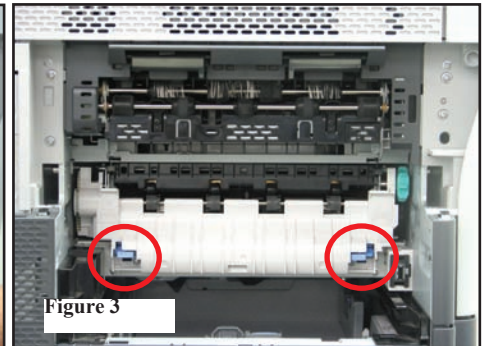

Figure 3
7. Remove the fuser by squeezing the blue clips and pulling straight out. (Figure 3)